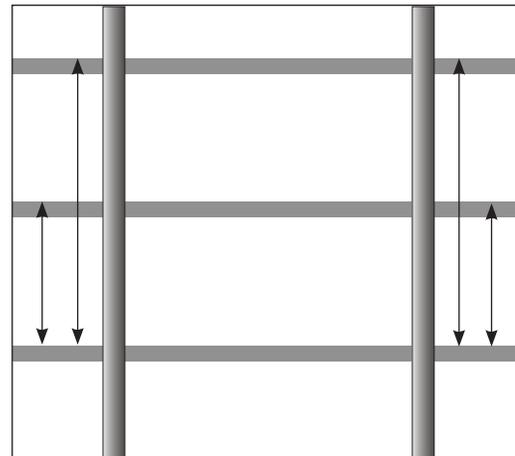

Figure 13: Verify Stringer Height
- Verify the stringer height is accurate based on the contract-specific Shop Drawing. Refer to **Figure 13** and measure from the top of steel (TOS) of each stringer to the TOS for each level. Always measure from the lowest stringer at each column location. Stringer spacing should not vary by more than $\pm\frac{1}{2}$ " across the width of the stringers. If either of these variations is encountered, contact the project manager or mechanical systems engineer.